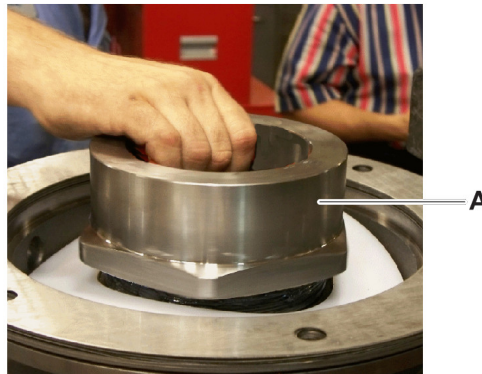

Figure 8
10. Put the spindle cap (Figure 8, item A) over the spindle and hand thread as far as possible.